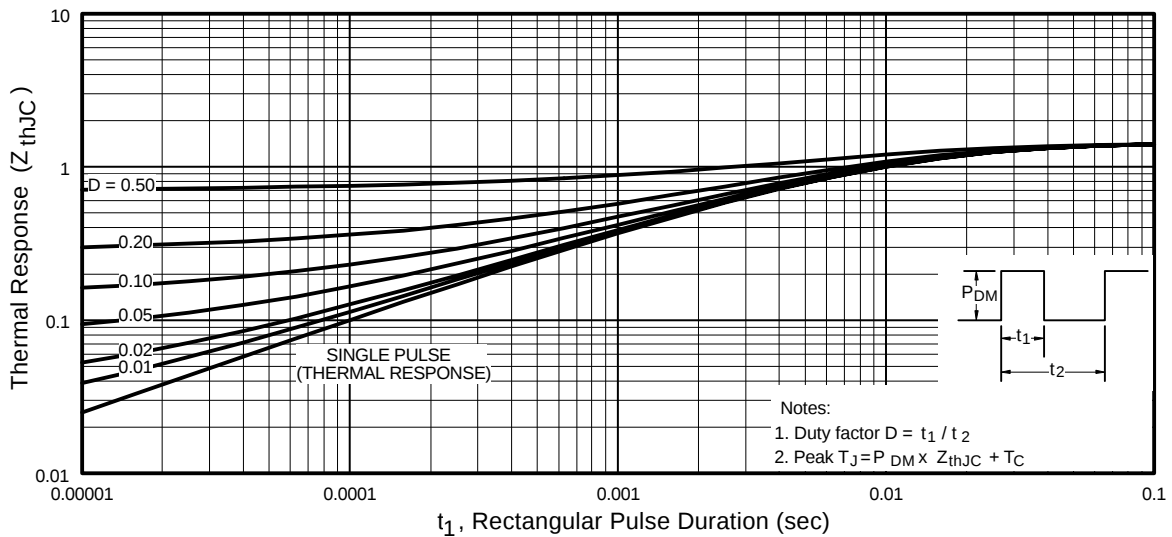

Fig 11. Maximum Effective Transient Thermal Impedance, Junction-to-Case
- ① Repetitive rating; pulse width limited by max. junction temperature. (See fig. 11)
- ② Starting $T_J = 25^\circ\text{C}$, $L = 0.48mH$